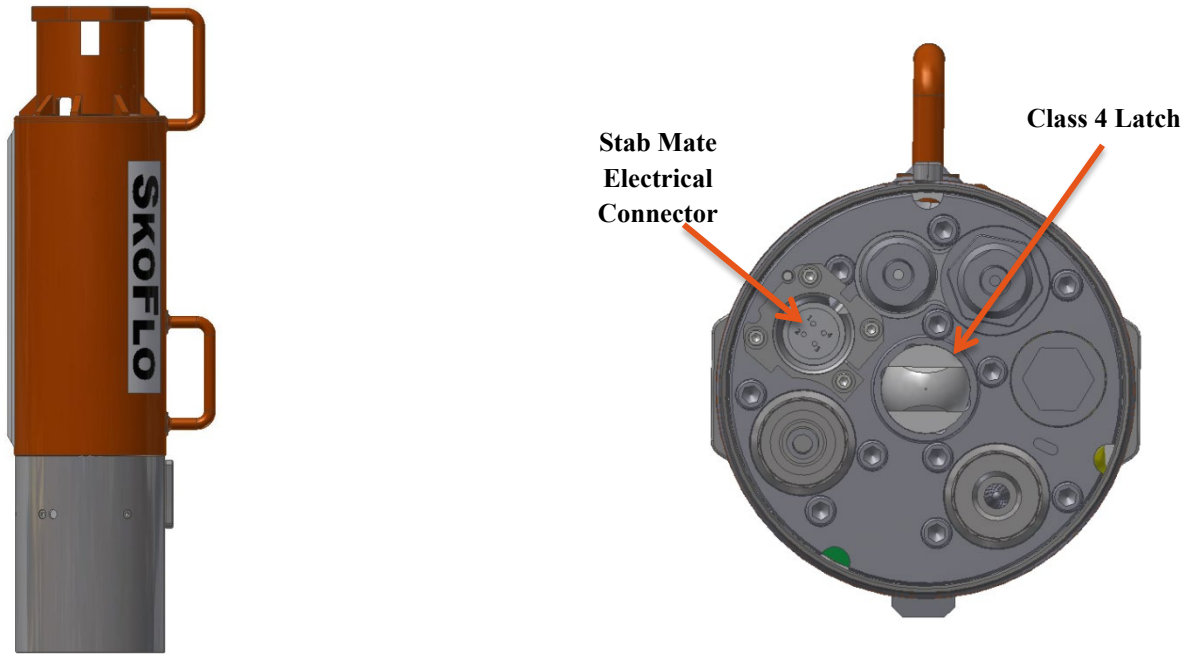

Figure 21: Stab Mate CIMV
- 14.3.1 Stab mate electrical connections are affixed to the receptacle junction plate. When the docking canister is placed into the receptacle, the class 4 latch draws the canister into the receptacle. This action mates the stab electrical connection. Refer to Figure 21.